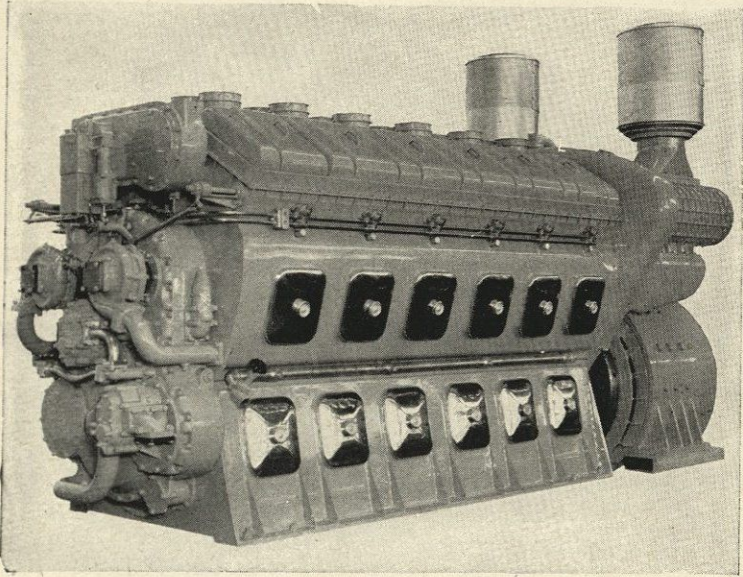
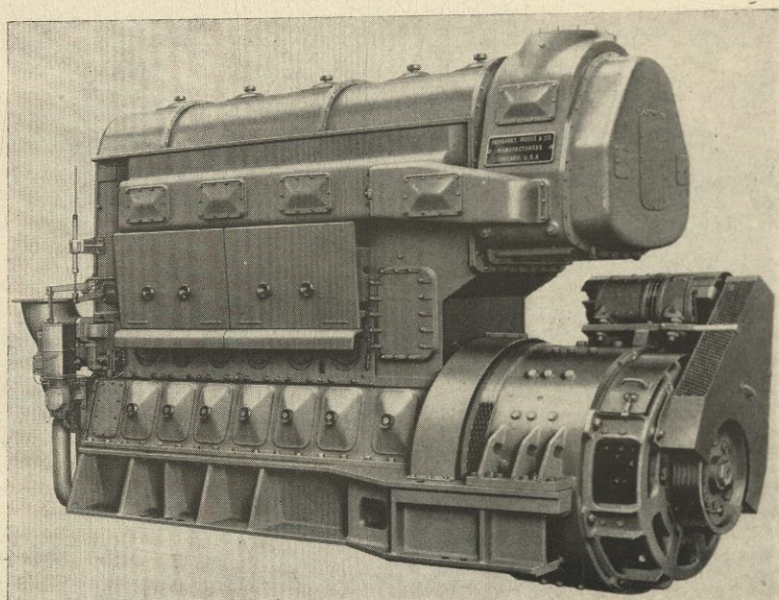

Fig. 3
Fig. 4
Fig. 3 shows a twelve-cylinder V-type engine. Fig. 4 shows a six-cylinder engine of the opposed piston type. Essential features of such engines are the fuel system—including the device that injects the fuel into each cylinder, the cooling system, the lubricating system, and the control valves and governor. The generator is wired so that it can be used as a motor for starting the engine.
8. The electric generator, which can be seen at the rear of the engine (Figs. 3 and 4), is directly connected with the engine by means of a flexible coupling. The generator is no different in principle from other elec-